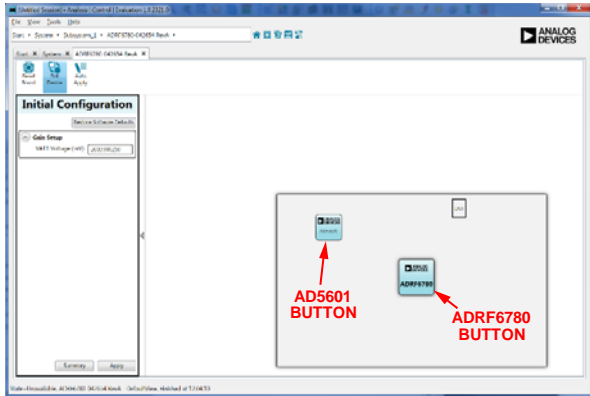
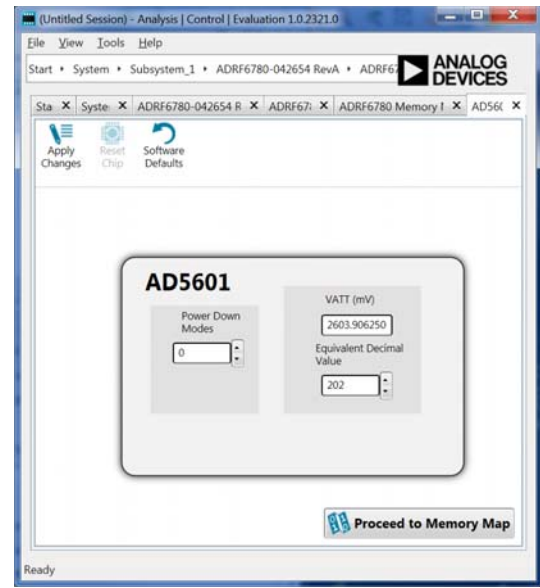

Figure 9. Initial Configuration for the Gain Setup and Board Plugin View
Figure 13. AD5601 nanoDAC User Interface
- The **ADRF6780-042654, Rev. A** tab then opens. On the left-side of the screen, click **Initial Configuration** to open this menu. Go to **Gain Setup** to enter the VATT voltage Note that 2600 mV is the highest gain for the device (see Figure 9). Click **Apply** and then double-click the **ADRF6780** button (see the middle of the screen shown in Figure 9).
When using an external power supply for the VATT voltage, use the AD5601 nanoDAC plugin to change the voltage or power down the nanoDAC. To open the nanoDAC plugin, select the AD5601 tab at the top of the ACE software window or double click the AD5601 button within the ADRF6780-042654, Rev. A tab (see Figure 9). Figure 13 shows the AD5601 nanoDAC user interface. The user interface contains two sections: the **Power Down Modes** section and the VATT voltage section.
After making any changes to the voltage or the power-down mode, click **Apply Changes** shown in the top left of the ACE software window (see Figure 13). When the **Auto Apply** button is selected in the ADRF6780-042654, Rev. A tab, these changes take place automatically; therefore, there is no need to click **Apply Changes**.